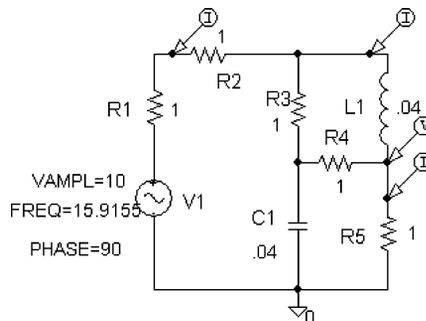

FIGURE 5.14: Mesh problem
- (1) In Fig. 5.14. Measure all loop currents and node voltages and compare to values calculated using mesh or nodal analysis.